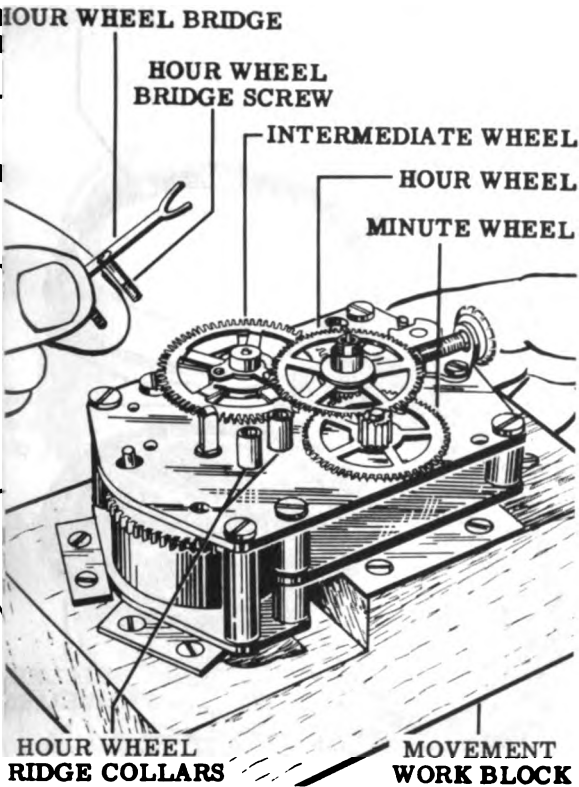

Figure 127
22. Place the hour wheel and hour wheel bridge in position as shown in Fig. 127. Tighten the two-hour wheel bridge screws.